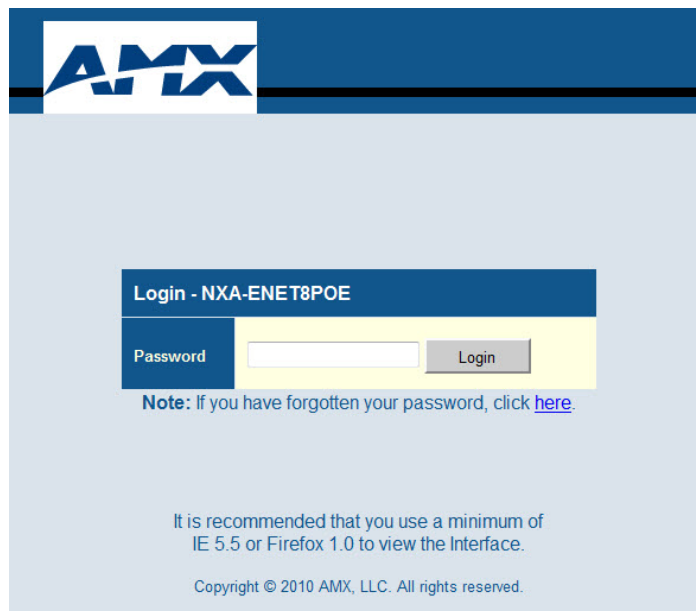

FIG. 7 Login page
4. Open your web browser and enter the address **http://192.168.2.10**. If your PC is properly configured, you will see the login page of the device (FIG. 7). If you do not see the login page, repeat step 3.